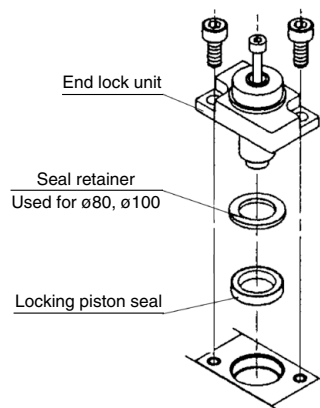

Fig. 1 How to remove end lock
- a. Removal of the end lock: Fig. 1.